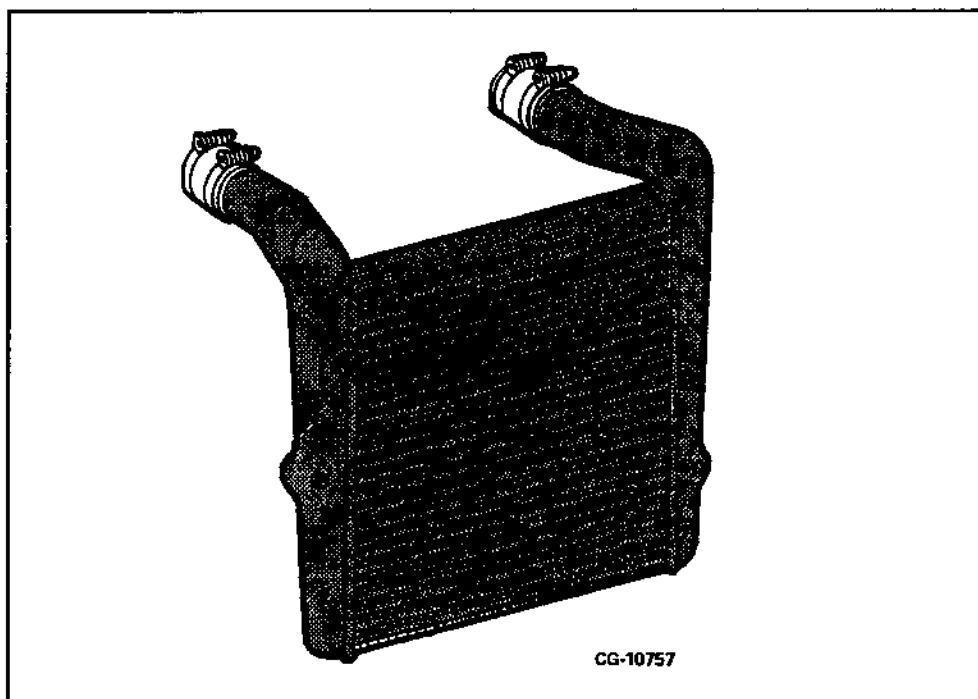

Figure 8-2 Chassis Mounted Air-to-Air Intercooler
1. With the engine off, visually inspect the air-to-air intercooler core assembly for debris and clogging of external fins. See Figure 8-2